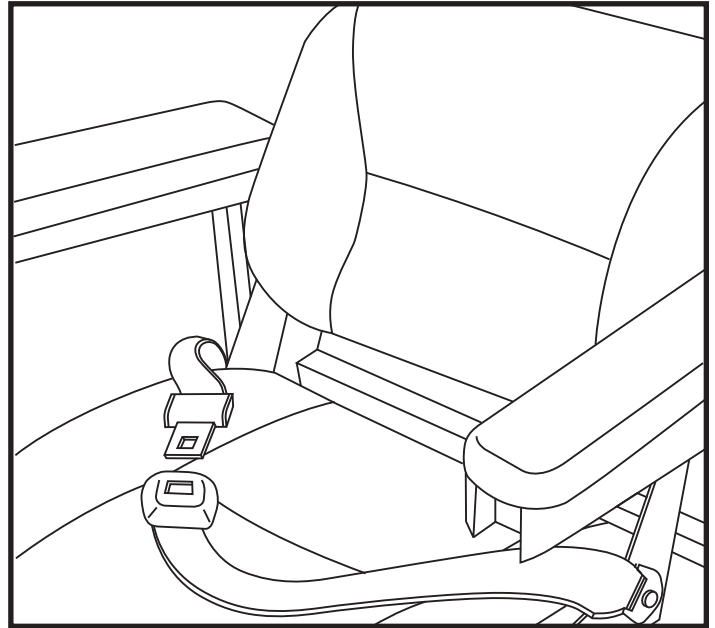

Figure 18. Positioning Belt Adjustment
Your power chair may be equipped with a positioning belt that can be adjusted for operator comfort. **See figure 18.** The positioning belt is designed to support the operator so that he/she does not slide down or forward in the seat. The positioning belt is not designed for use as a restraining device.
1. Once seated, insert the metal tab on one side of the belt into the plastic housing on the opposite side until you hear a click. **See figure 18.**